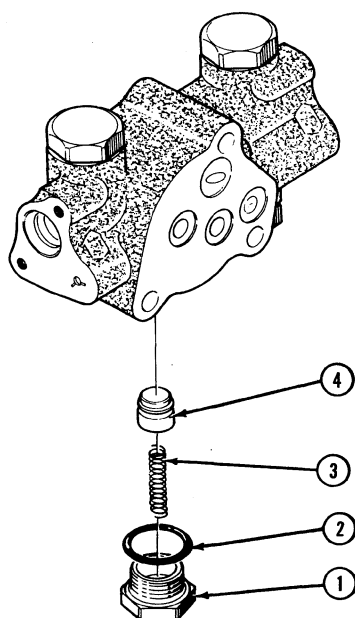

Figure 10
6. Remove the plug (1) and O-ring (2) in the bottom of the valve and remove the spring (3), and poppet (4), Figure 10.